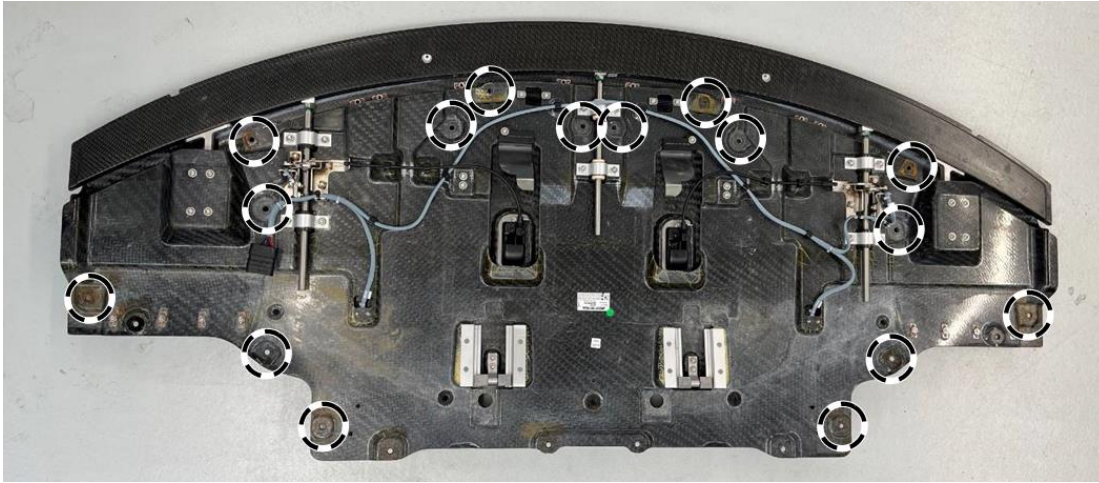

**Figure 15**
3. Spread/remove Teroson bead to/from surface of decoupling disk (figure 15).